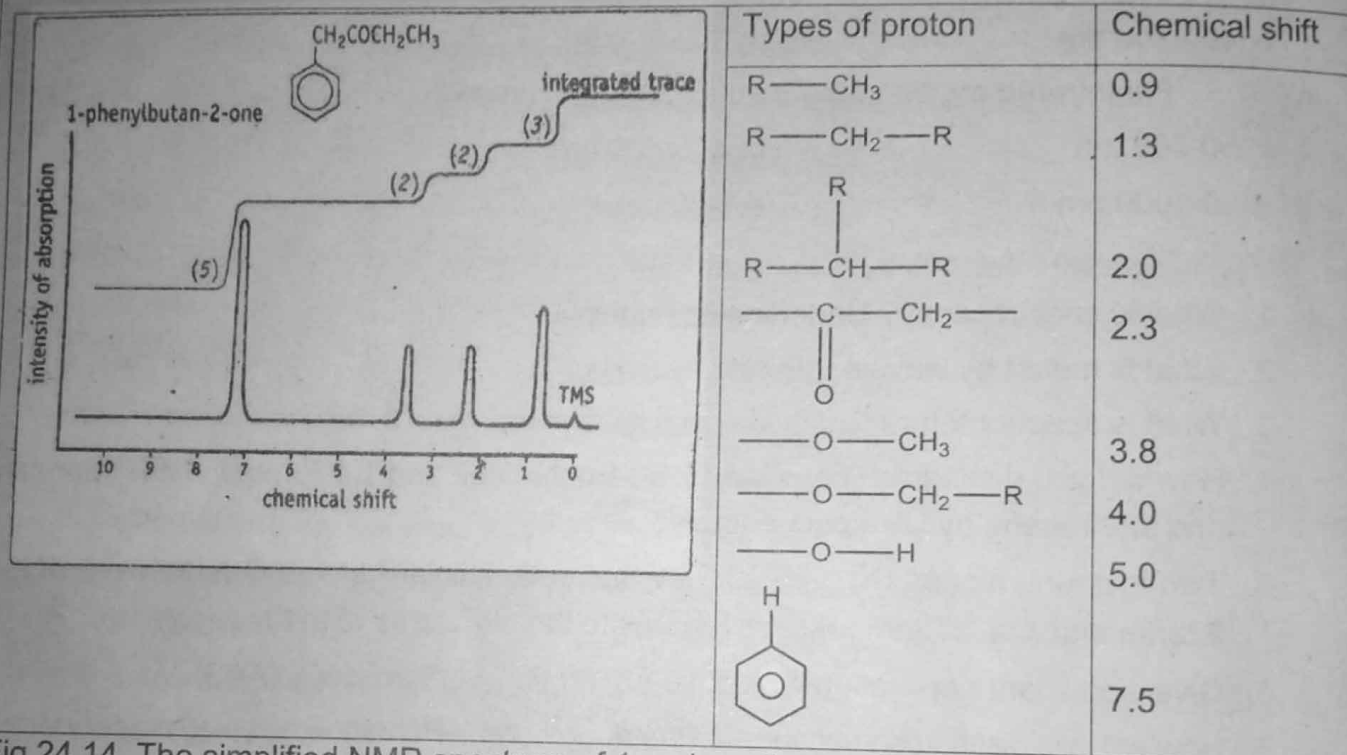

Fig 24.14. The simplified NMR spectrum of 1-phenylbutan-2-one.
1. Figure 24.14 shows the simplified NMR spectrum of 1-phenylbutan-2-one